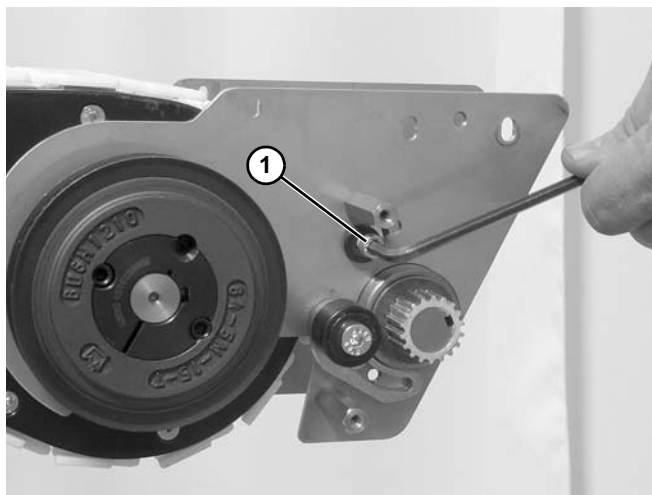

Figure 166
12. Remove socket head screw (Figure 166, item 1) on both sides of the conveyor and remove idler assembly.